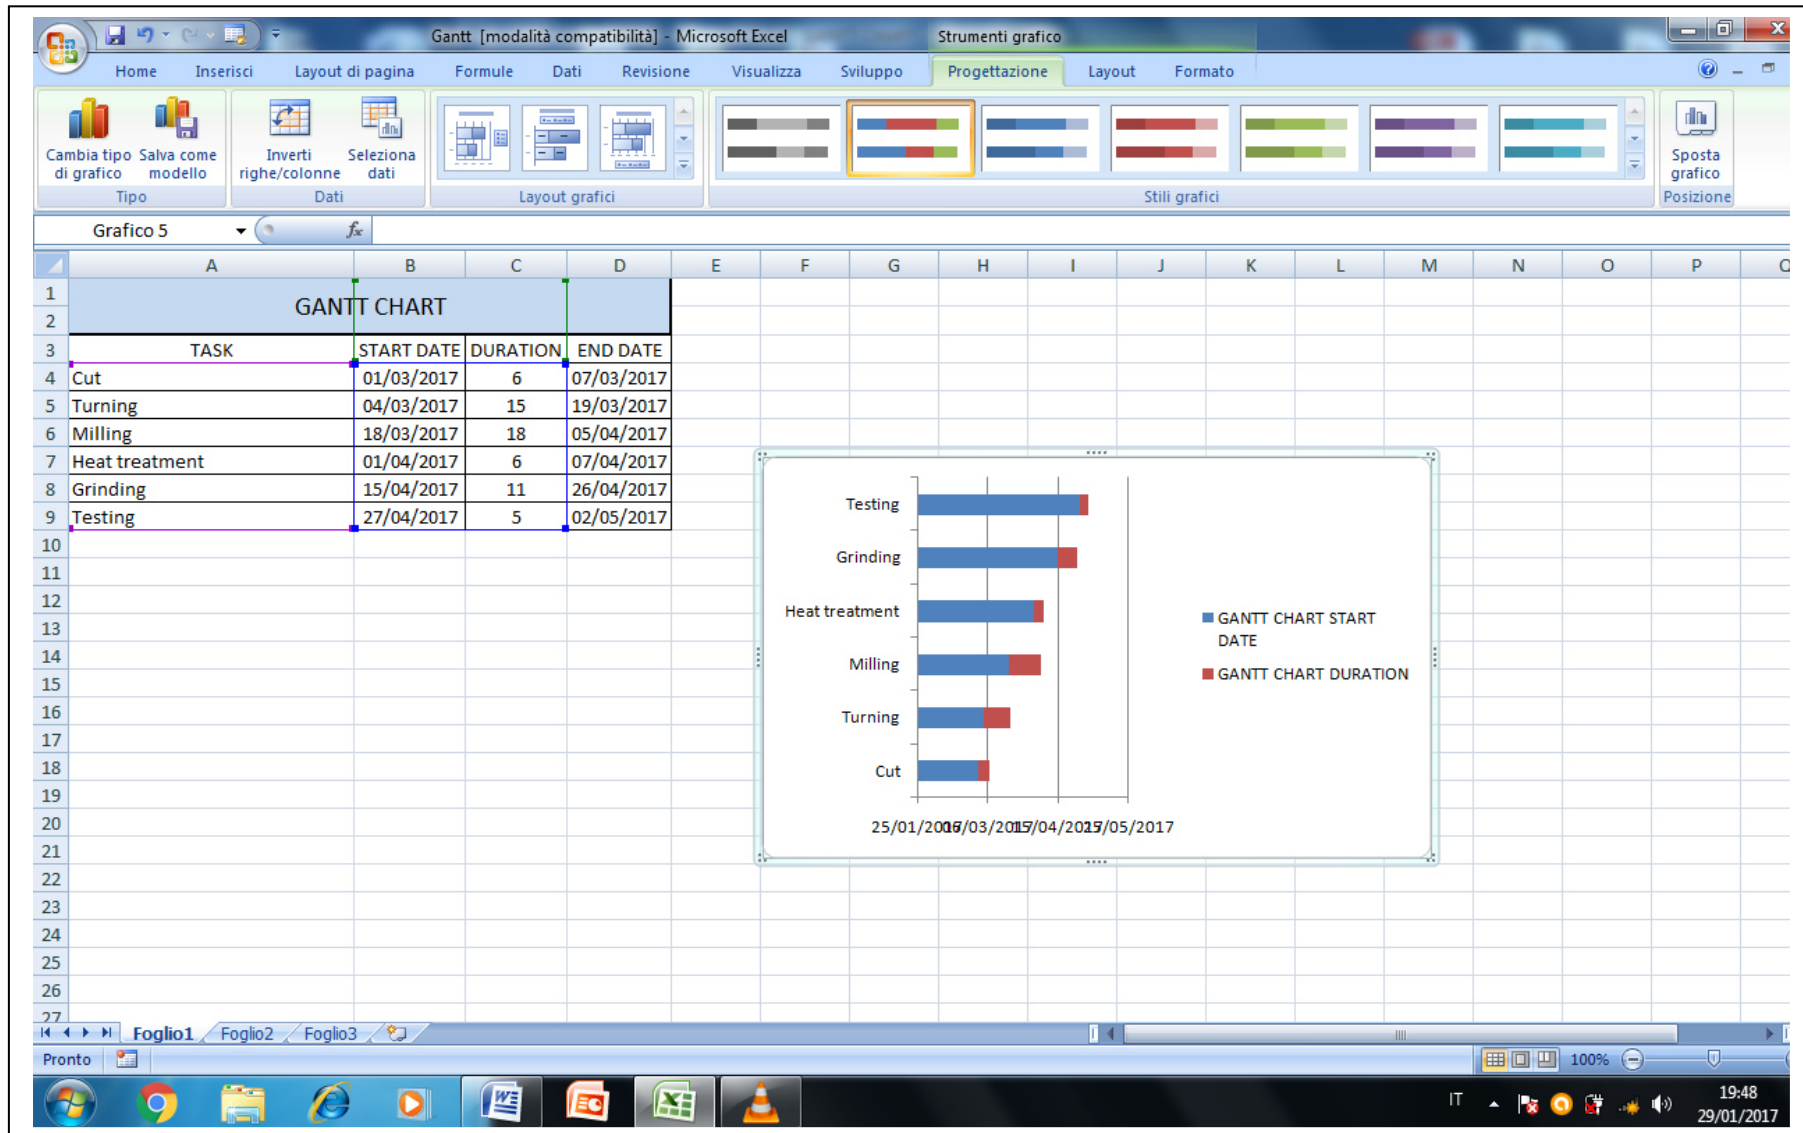

Fig.6- Result of the removal of the third series
5) Press OK. The result is shown in Fig.6